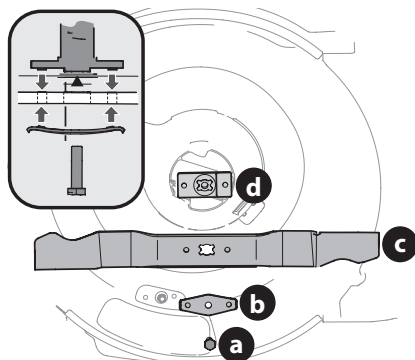

Figure 24
4. Remove bolt (a) and blade bell support (b) which hold the blade and the blade adapter to the engine crankshaft (Figure 24).
7. Lubricate the engine crankshaft and the inner surface of the blade adapter with light oil. See inset, Figure 24.